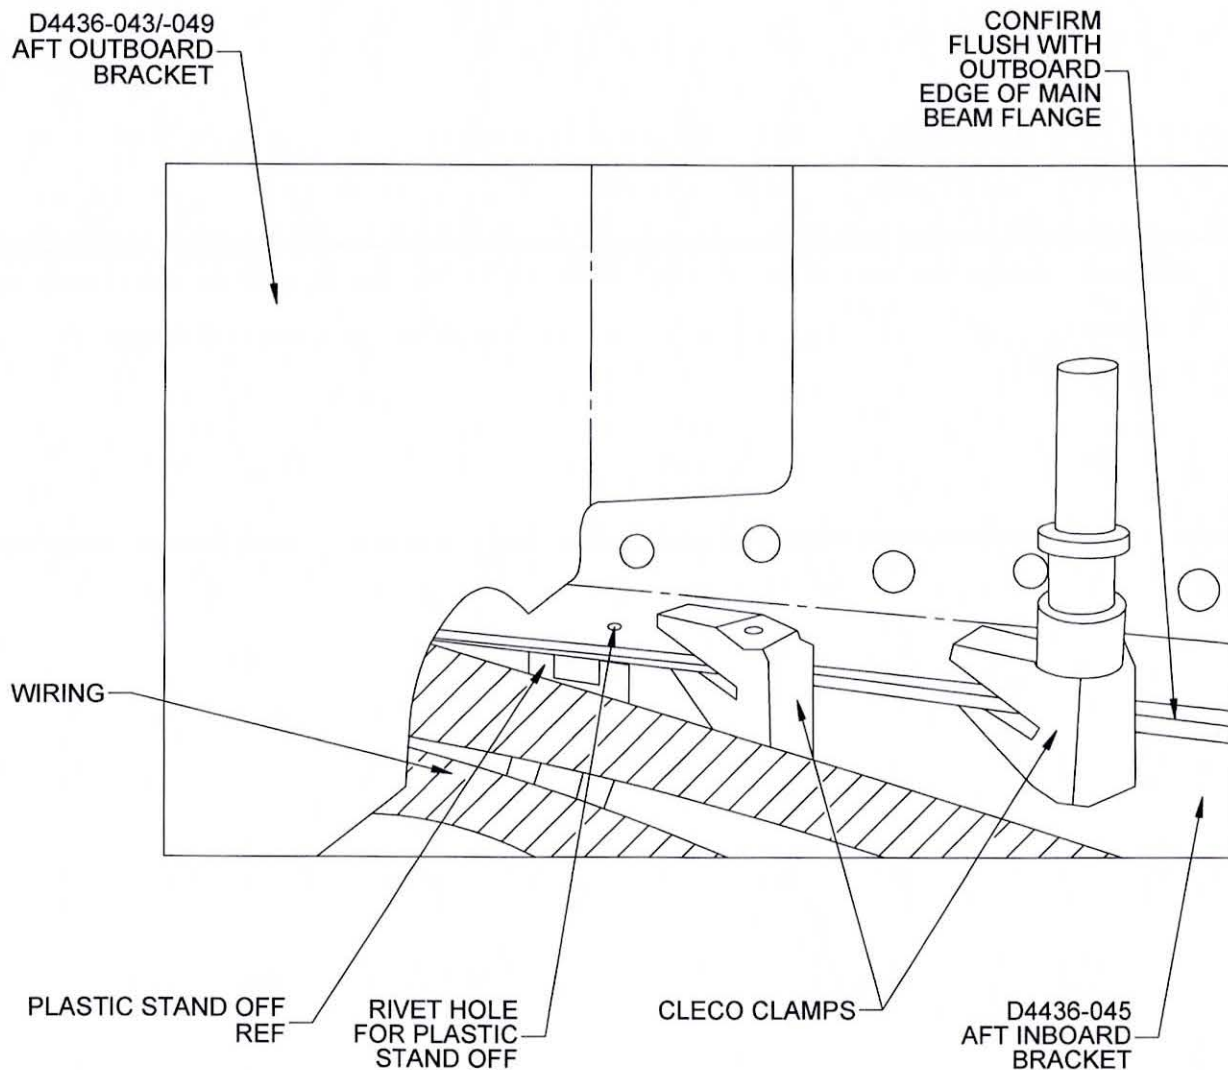

**Figure 5. D4436-045 & D4434-043 or D5076-043/-045 or D5920-047 Brackets Installation**
- 4.2 Temporarily install D4434-043 or D5076-043/-045 or D5920-047 Fwd Inboard Bracket and D4434-045 or D5920-045 Fwd Outboard Bracket using clecos and cleco clamps. Confirm there is no contact between D4436-045 Aft Inboard Bracket and D4434-043 or D5076-043/-045 or D5920-047 Fwd Inboard Bracket and main beam gusset as shown in Figure 5.